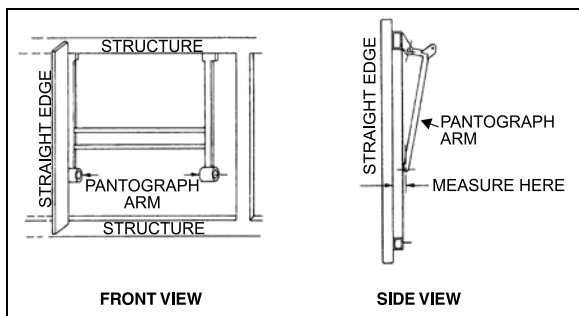
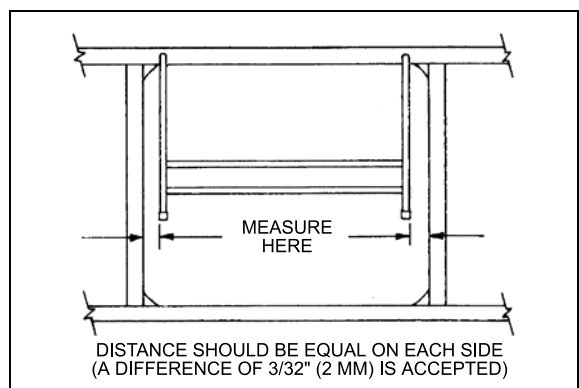

FIGURE 58: PANTOGRAPH DOOR ADJUSTMENT 18062
FIGURE 59: PANTOGRAPH DOOR ADJUSTMENT 18063
Measure distance between a pantograph arm end and a straight edge resting on structure. Repeat procedure for the other arm. The distance on each side should be equal. If not, bend appropriate arm until desired measure is obtained (Figure 58 & Figure 59).
5. When the door is straight, remove the 2x4's and check door operation and fit. A difference of  $3/32$ " (2mm) between both sides is accepted (Figure 59).